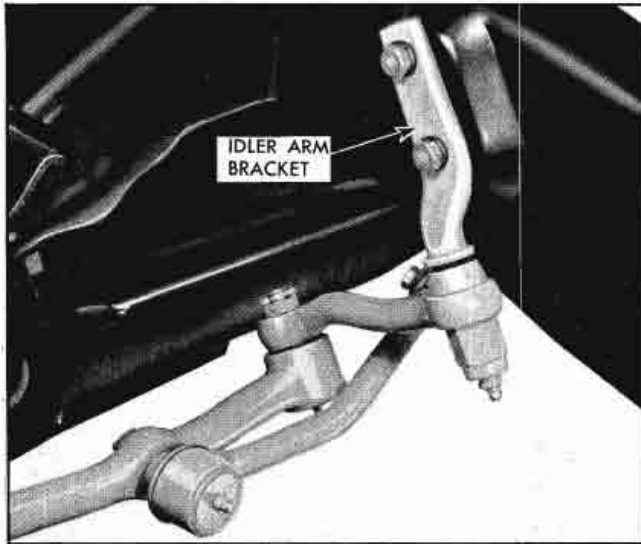

Fig. 6-50 Idler Arm Bracket to Frame Screws
8. Remove two idler arm to frame retaining bolts and lower idler arm and tie rod (Fig. 6-50).